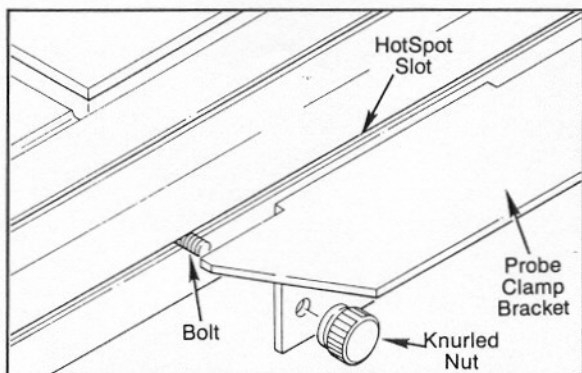

FIGURE 4. PROBE CLAMP BRACKET
3. From rear of unit, slide the optional Probe Clamp Bracket into the side "T-Slot" and secure with the Knurled Nuts, refer to Figure 4. (NOTE: The Probe Clamp Bracket can be mounted to either side).